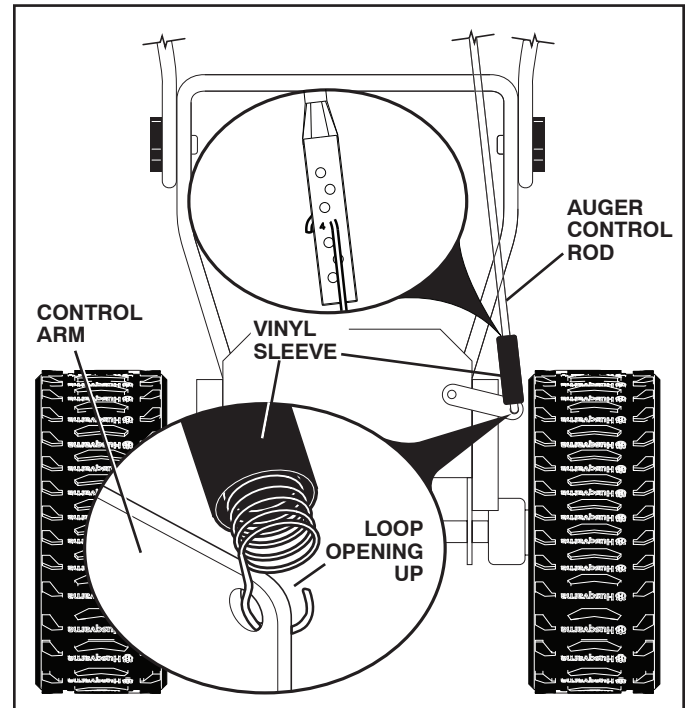

FIG. 5
INSTALL AUGER CONTROL ROD (See Figs. 5 and 6)
1. Retrieve vinyl sleeve and spring from bag of parts and retrieve the auger control rod from carton chute tray. Slide straight rod end through the small hole in the vinyl sleeve. Using the long hook end of the spring, hook spring in hole #4 in rod. (See Fig. 5).
2. Hook end of spring into control arm with loop opening up as shown. (See Fig. 5).